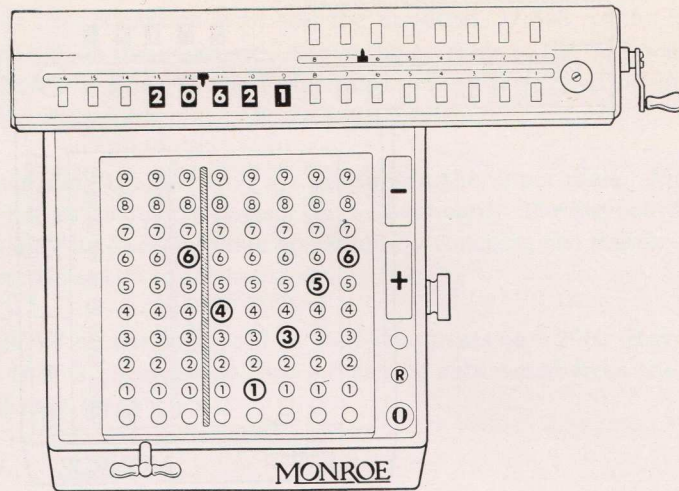

Figure 11
*Step 4*—Clear the keyboard and upper dials as previously described by means of the master clear key and minus bar. Set 6.41356 on the keyboard and with carriage in “7” position start the division as indicated in Figure 11.